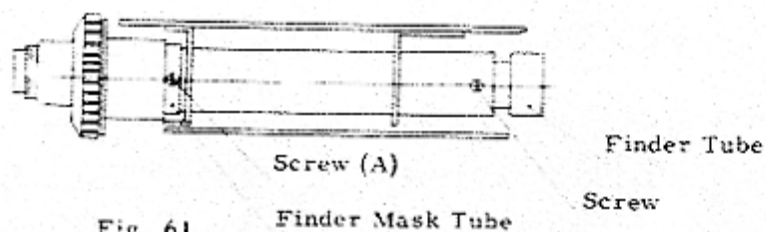

Fig. 61
- 4, Adjustment of inclination of Mask is to be made by turning Finder Mask Tube with Screw A slackened. See Fig. 61.